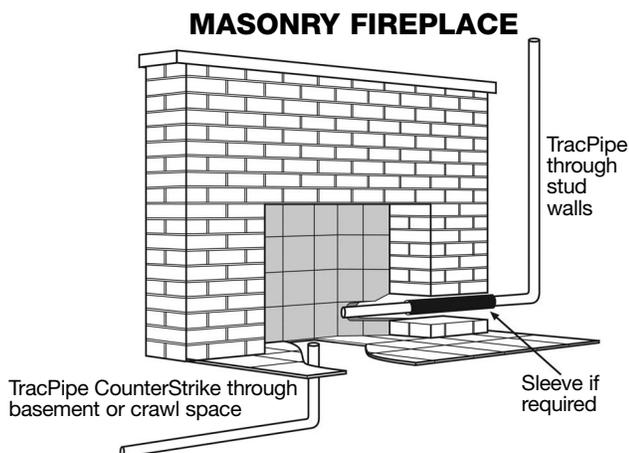

Figure: 4-22
1. **CounterStrike**® may be used to deliver gas directly to the valve for a gas fireplace. This is approved for decorative and heat generating fireplaces and for gas logs used in masonry and pre-fabricated fireplaces. DO NOT use **CounterStrike**® to connect gas log lighters or gas wands for use in all-fuel (woodburning) fireplaces. (See Figure: 4-22).